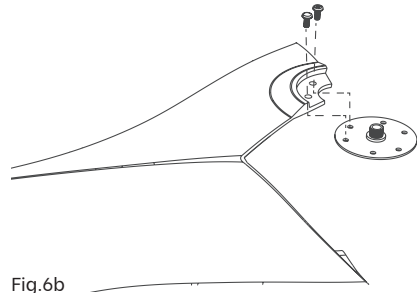

Fig.6b
3. Assemble this fan blade with flywheel to the motor assembly by using two previously removed upper blade fixing screws/washers (Fig.6b, 6c).